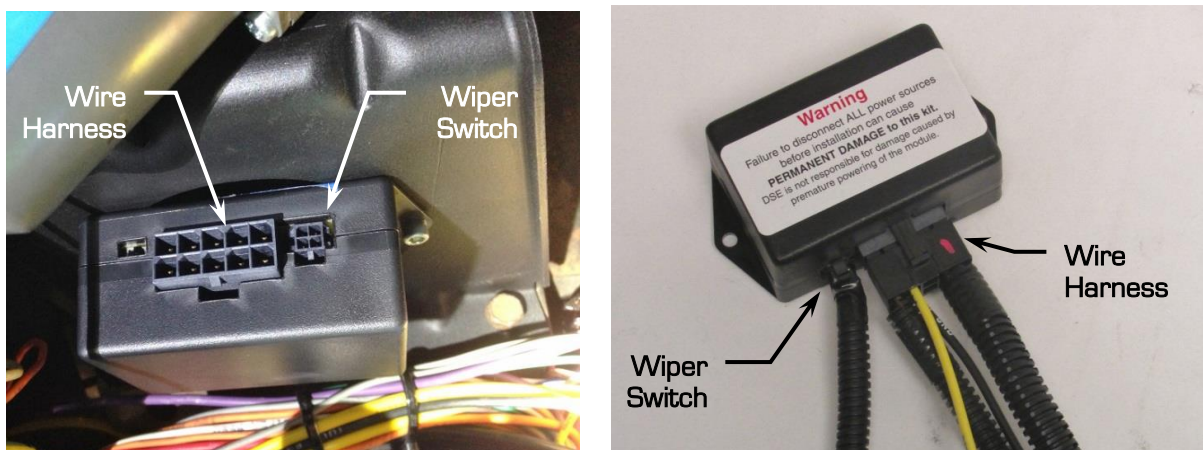

Figure 18 - Connect Wiper Switch & Harness to Module
25. Install the 10-pin connector of the wiring harness into the wiper control module located on the wiper mounting bracket. Install the 4-pin connector from the wiper switch and install it into the control module (Figure 18).